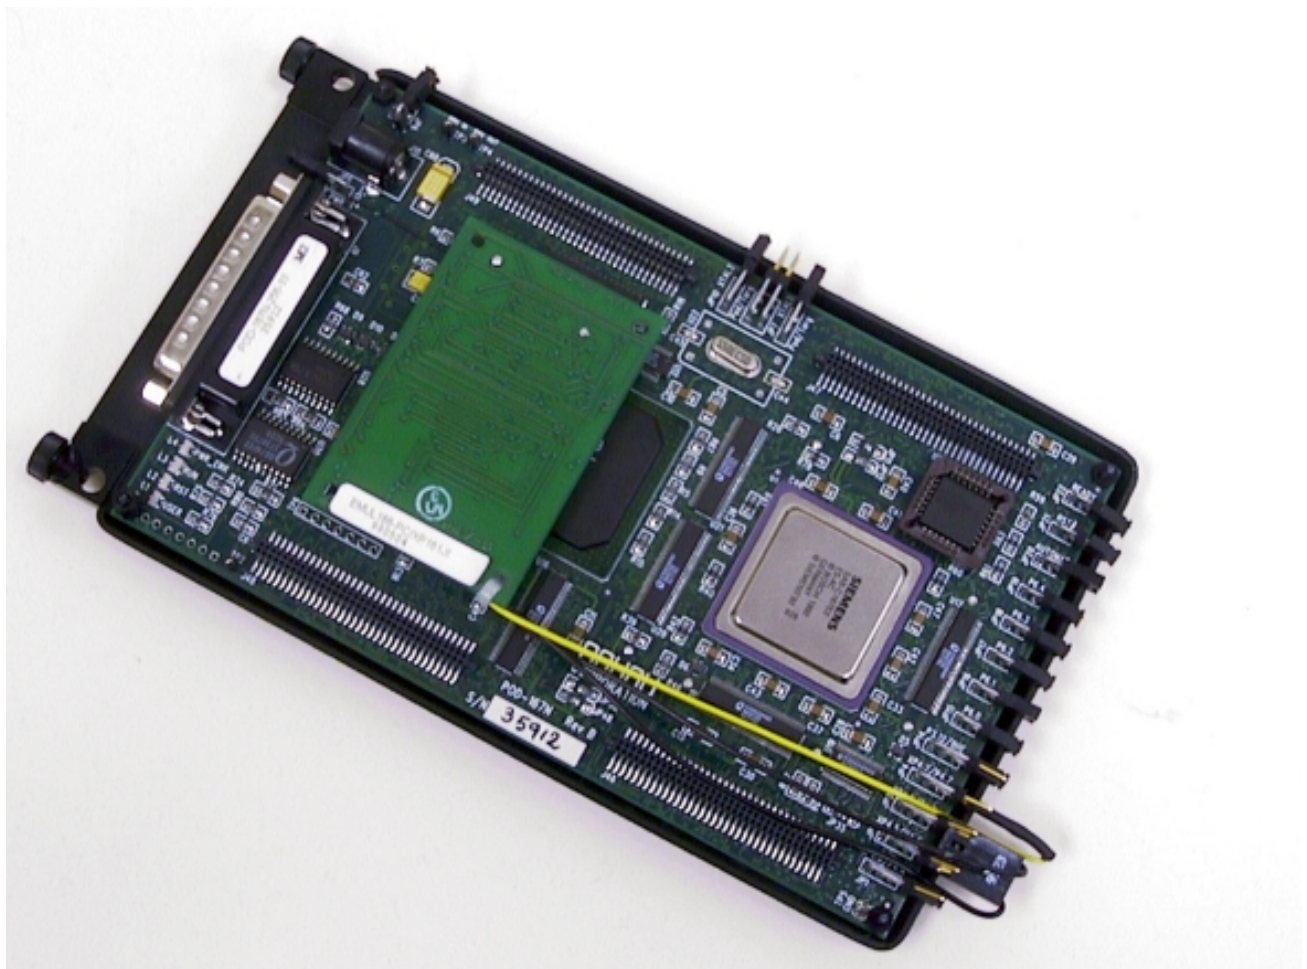

Figure 1
Figure 1 shows this configuration:
The Nohau EMUL166 comes as two boards. One board is the trace board and the other is the emulator board. The trace is optional. The daughtercard mounts on the emulator as shown in Figure 1.
- 2) Plug the daughtercard into J45 as shown in Figure 1.
- 4) Connect the two connectors to the center pins of JP2, JP3 and JP4 as follows: the single wire connects to JP4 and the double plug connects to JP2 and JP3. The lettering on the plug faces up as in Figure 1.